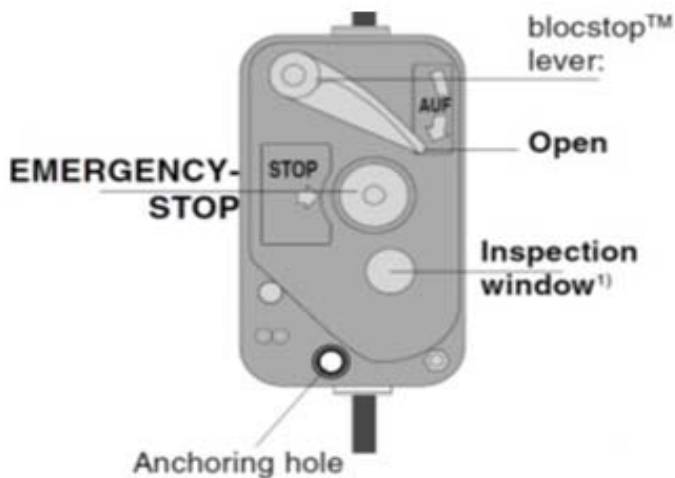

Figure 1 - General View Blocstop fall arrest device
The Blocstop fall arrest device continuously monitors the wire rope (1) speed through a centrifugal device (2). To monitor the wire rope speed, a roller system is used to transform the linear speed into rotational speed. The wire rope (1) is pushed by a pressure roller (3) against a driving roller (4) which is mechanically linked to the centrifugal device (2). When an overspeed condition is met the centrifugal device (2) triggers activating the clamping jaws (6) which locks onto the wire rope (1). The centrifugal device rotation is visible through the inspection window shown on figure 1 making possible to easily check that the system is working. In case of failure of the roller system (pressure or driving roller) the centrifugal device (2) would stop rotating showing a defective unit.